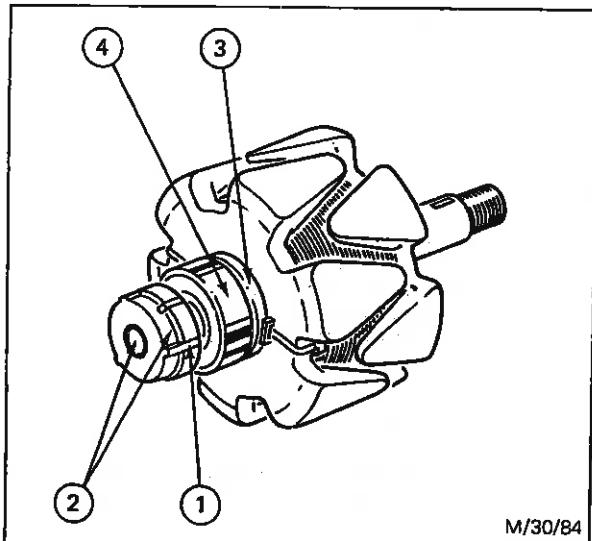

Fig. 34 - Slip Rings and Bearing Renewal -
Unsolder the field winding connections (1) from the slip rings (2) using a light weight soldering iron, e.g. 25W - see Fig. 34.